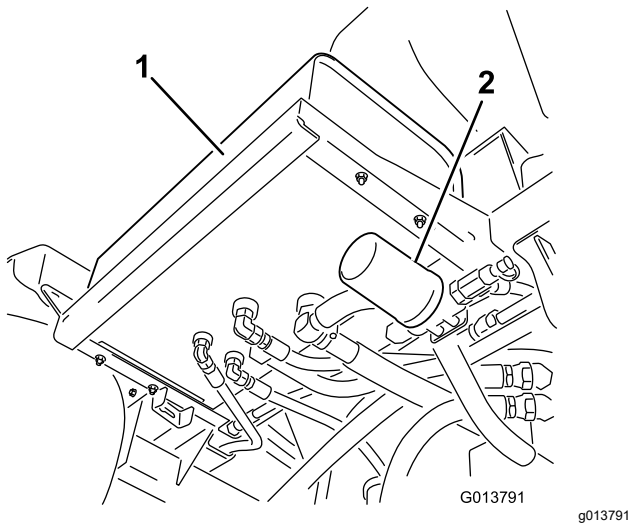
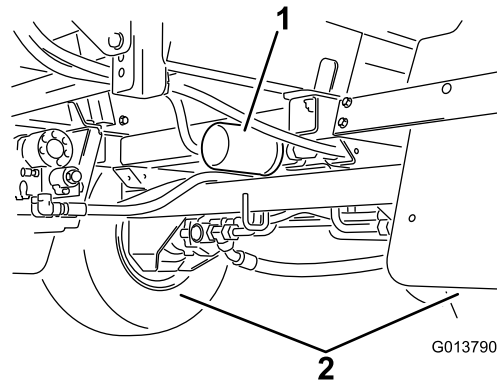

Figure 100
Figure 101
2. Locate the 2 hydraulic filters on the machine (Figure 100 and Figure 101).